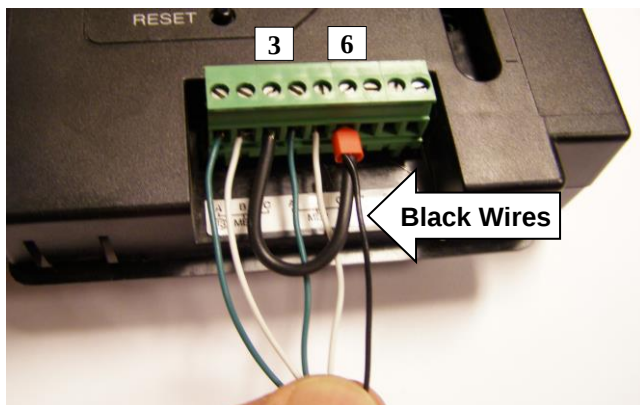

Figure 2: Existing Sola Wiring
A wiring change is required if the green connector on the existing Sola controller looks like Figure 2, where pos. 3 and 6 are black wires that are connected together.